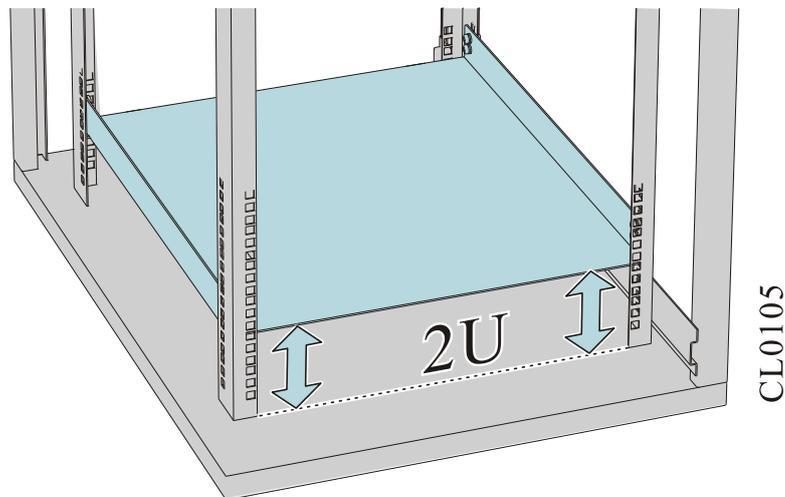

Figure 3-1 The minimum slide height
- Ensure that the distance between the slide to the bottom cabinet is 2U and three holes on the square hole bar is 1U, as shown in Figure 3-1.